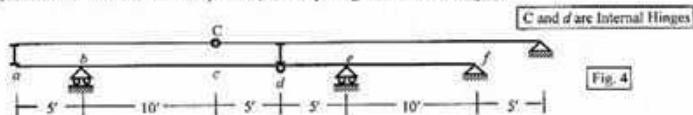

Fig. 4
- (ii) Draw the influence lines of  $R_f$  and  $M_d$  for the plate girder shown in Fig. 4.